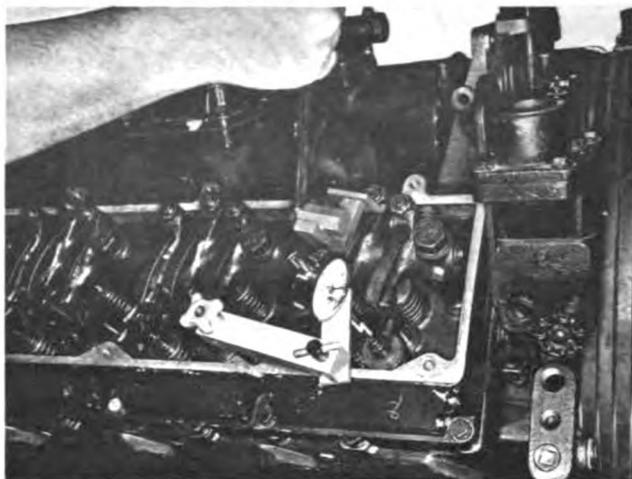

Fig. 2-39, (V514128). Bottoming injector plunger in cup — V-903
4. Using ST-1251 Rocker Lever Actuator, bottom the injector plunger, check the zero (0) setting. Fig. 2-39. Allow the plunger to rise slowly, the indicator must show the plunger travel to be within the range specified in Table 2-10.